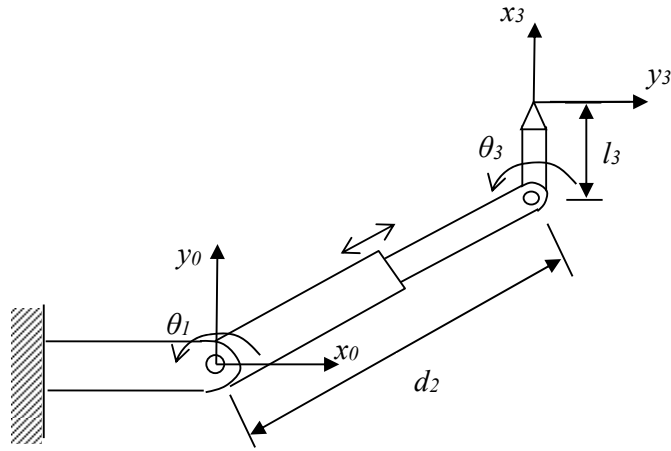

Figure 4
4. A three-degree-of-freedom RPR robot is as shown in Figure 4. The joint variables are  $(\theta_1, d_2, \theta_3)$  and  $l_3 = 1 \text{ m}$ .